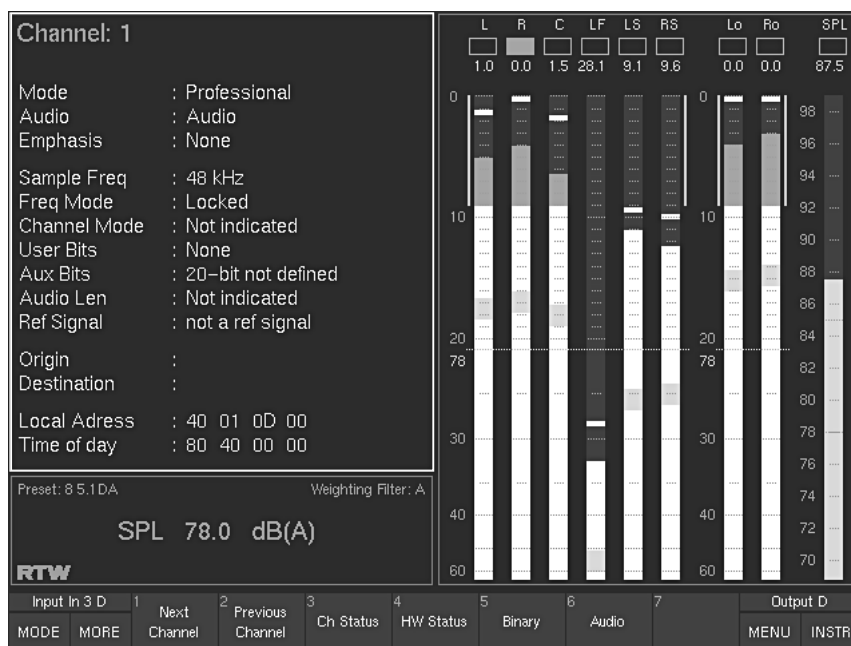

Fig. 3-24: Screen display with AES/EBU instrument selected
(Buttons/keys 1 and 2, see Fig. 3-24)
(Button/key 3, see Fig. 3-24 – toggle function linked to Binary)
(Button/key 4, see Fig. 3-24)
(Button/key 5, see Fig. 3-24 – toggle function linked to Ch Status)
(Button/key 6, see Fig. 3-24)